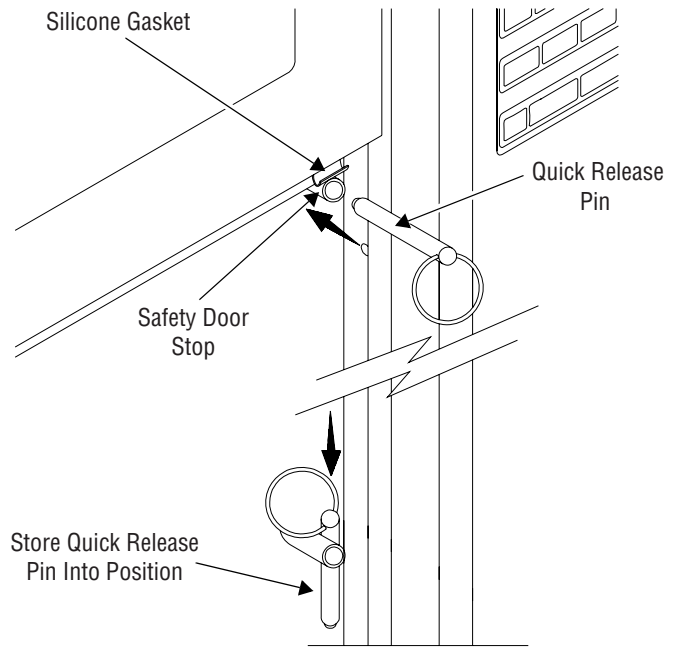

Figure 4-10. Safety Door Stop (Reliance 400 Only)
- c. Insert quick release pin into safety door stop (see Figure 4-10).
1. Remove quick release pin from safety door stop (see Figure 4-10).
4. Store quick release pin into original position (see Figure 4-10).